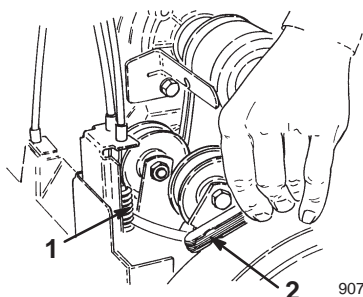

Figure 29
5. Hold the lever and insert a 0.010 inch (0.25 mm) feeler gauge between a coil in the center of the spring (Fig. 29).